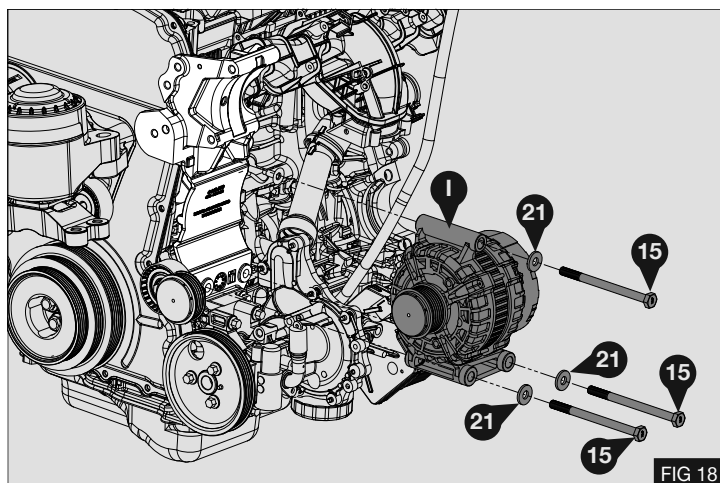

FIG 18
4. Fit the alternator (1) using 3x M10x140 bolts (15) with washers (21) - Fig 18